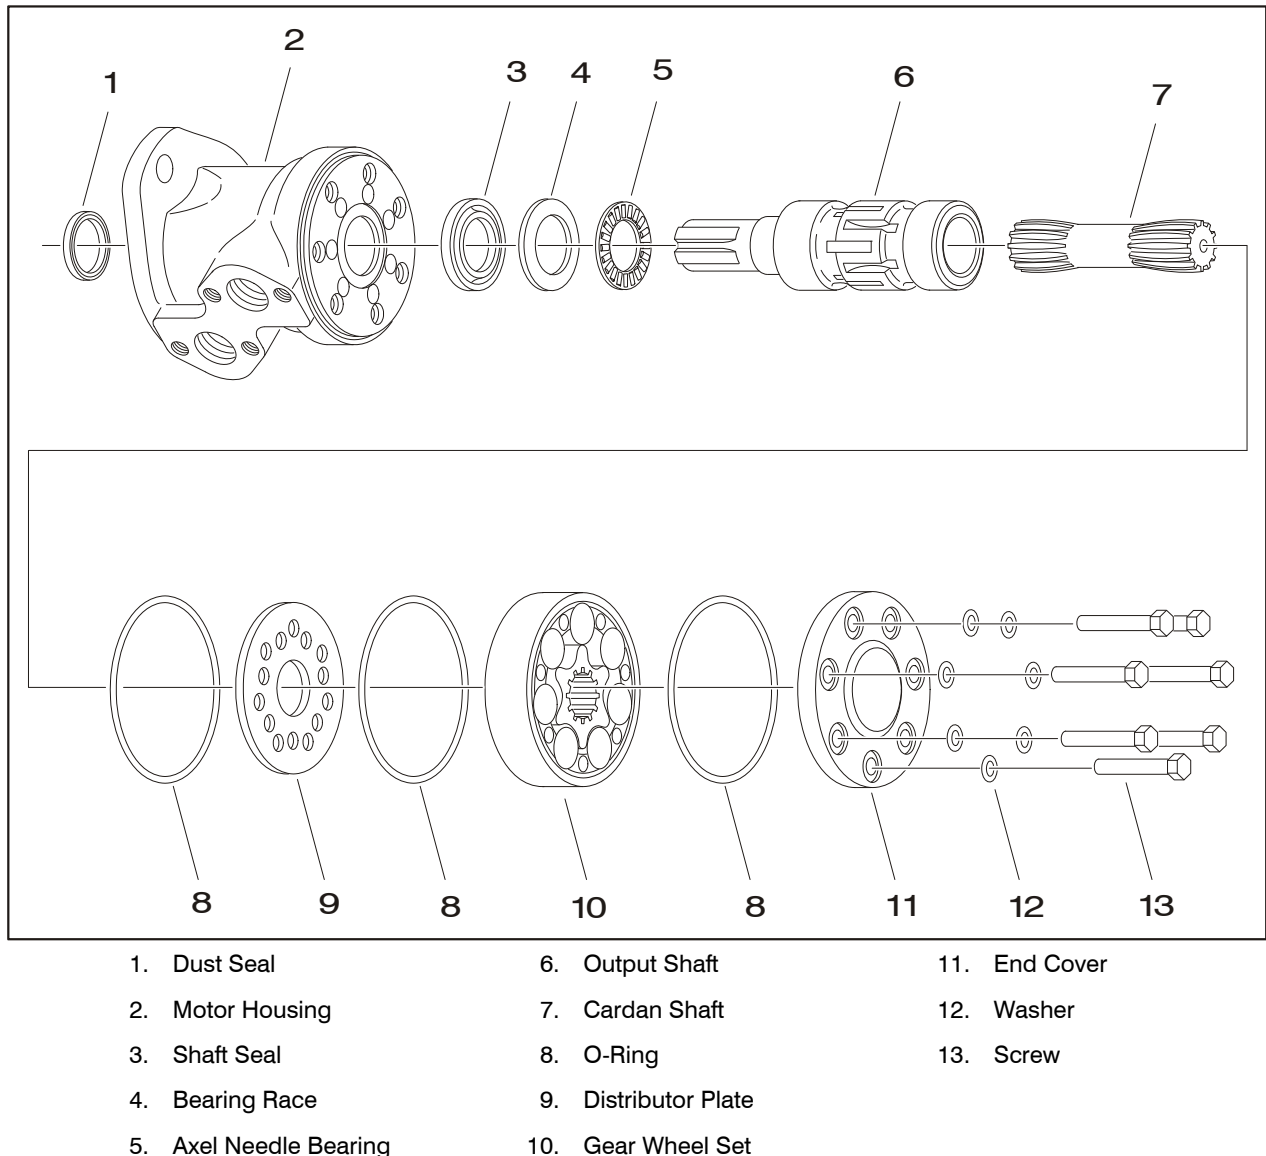

Figure 3-5. Drive Motor (OMR 100)
NOTE: For numbers in (), refer to Figure 3-5., Drive Motor (OMR 100).
Screws (item 13 in Figure 3-5.)	270 - 315 lbf in (3.0 - 3.5 daNm)